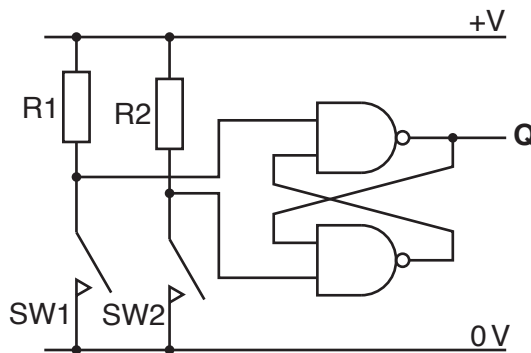

Fig. 16
- (c) Fig. 16 shows an alternative method of latching a signal using NAND gates.
(iii) Fig. 17 shows a CMOS quad NAND IC. When used to make the latch circuit in Fig. 16 there will be two spare logic gates which must have the inputs connected to a logic level.